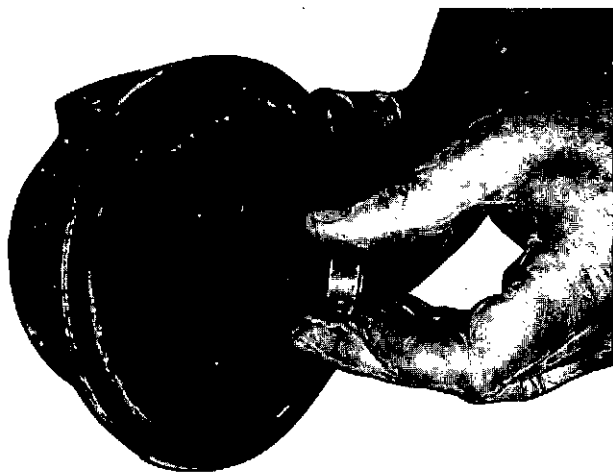

Fig. 5-15, (TA18). Removing the bearing and washer (turbine end)
14. Remove the outer snap ring, bearing, bearing washer, and inner snap ring from the turbine end of the center housing, Fig. 5-15.